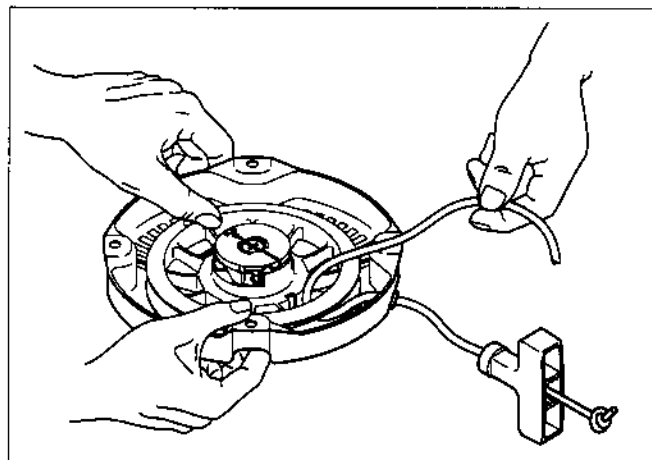

Fig. 9-1
- 3: Push and hold the reel with the thumbs of both hands firmly so that the rope will not be wound back. (Fig. 9-1)